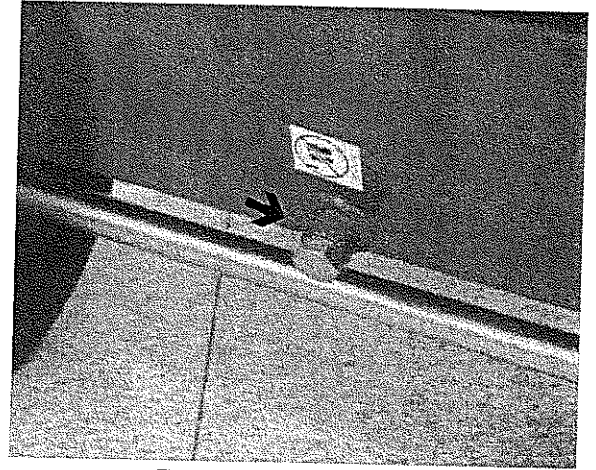

Fig.16 Oil drain cap
- Place a collection tray able to hold around 6 Kg litres of oil under the oil drainage dowel (fig.16).
- Unscrew the dowel (fig. 16) with a suitable allen wrench and let all the oil in the tank drain into the collection tray.